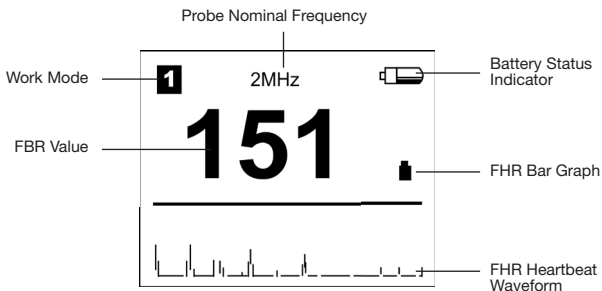

Fig. 3-4 LCD Display
1. Power on by pressing the Power button. The LCD display is as Fig.3-4.